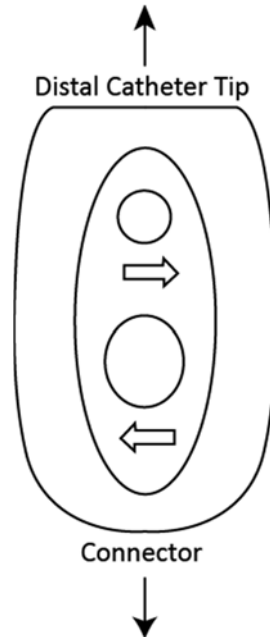

Figure 1: Reprocessed LASSO 2515 Variable Catheter
- Adjust the loop diameter with the handle grip. By rotating the handle grip to the right, the loop contracts; by rotating the grip to the left, the loop expands (see Figure 1). Contract the loop by rotating the handle to the right, relax/expand the loop by rotating the handle to the left. (see Figure 1).
To reduce the diameter of the loop, rotate the handle clockwise with the catheter pointing away from you. Rotating the handle counter-clockwise increases the loop diameter (see Figure 1). When the handle is fully rotated counter-clockwise, the maximum diameter of 25mm is attained. When the handle is fully rotated clockwise, the minimum 15mm diameter is attained. Pushing forward on the catheter thumbknob deflects the tip of the catheter. When the thumbknob is pulled back, the catheter tip straightens.